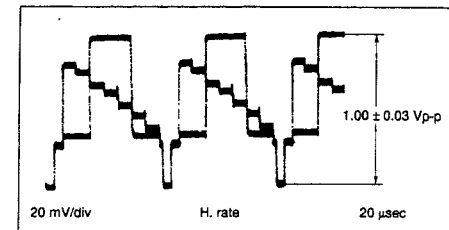

Fig. 3-3-6 PB Y level
- (1) Connect an oscilloscope to Y OUT TERMINAL.
- (2) Set EVR mode by pressing "K" button of the presetting unit more than 2 seconds.
- (3) Set "A : 11" pressing 1 digit key twice of the remote controller.
- (4) Record a colour bar signal in the S-VHS mode, and playback recorded colour bar signal.
- (5) Adjust TV PROG "+" or "-" button for 1.00 ± 0.03 Vp-p as shown in Fig. 3-3-6.
- (6) Set normal VCR mode by pressing "K" button of the presetting unit again so adjustment data is memorized.
- (7) Repeat steps (1) to (6) in the VHS mode.